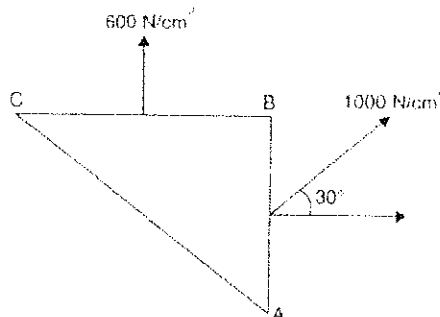

Fig. Q3
- Q3.(a) At a certain point in a material under stress the intensity of the resultant stress on a vertical plane is 1000 N/cm2 inclined at 30° to the normal to that plane and the stress on a horizontal plane has a normal tensile component of intensity 600 N/cm2 as shown in Fig. Q3. Find the magnitude and direction of the resultant stress on the horizontal plane and the principal stresses.